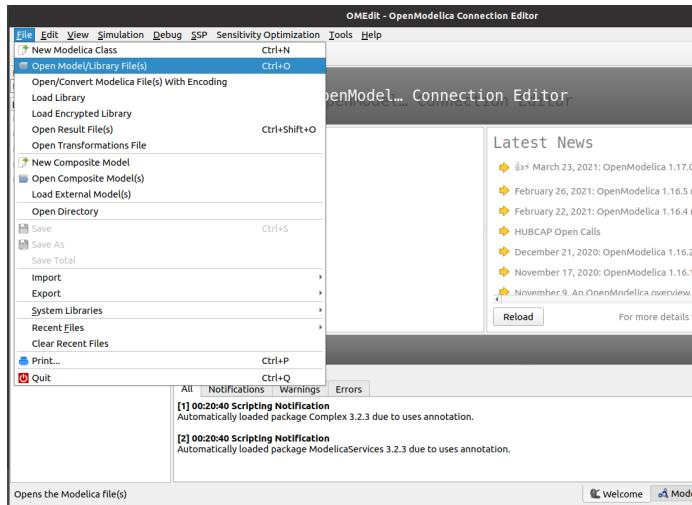

Figure 3.29: Opening a model in OMEdit
The files or models in OpenModelica have ‘.mo’ extensions. Though there are several ways to simulate or run an OpenModelica model, we will execute the models by utilizing the user interface of OMEedit. To open a model in OMEedit, go to the menu bar of OMEedit and click on File -> Open Model/Library File(s), as shown in Fig. 3.29. Then, select the desired model (with ‘.mo’ extension) and click Open. The names of tabs in this book have been mentioned according to OpenModelica 1.17.0. You might observe a bit of difference in these names while working with other versions of OpenModelica.
2. After launching, we have to load OpenModelica-Arduino toolbox. To do so, go to the menu bar of OMEdit. Click on **File** and then click on the **Open Model/Library File(s)** option as shown in Fig. 3.29.